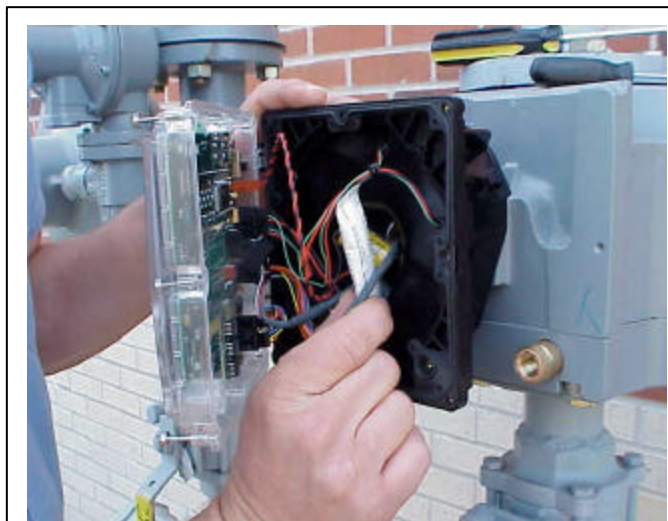

Figure 7.13 Desiccant Replacement
15. Place new desiccant bag in the new index head. **See Figure 7.13**